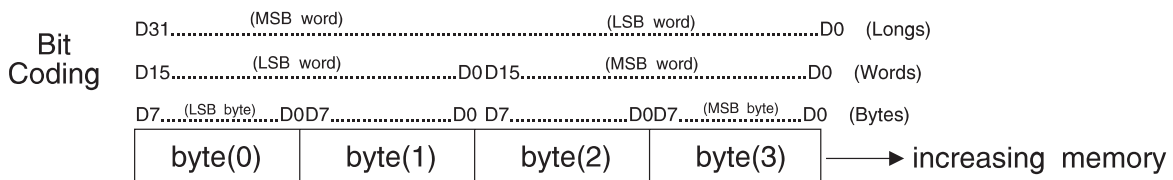
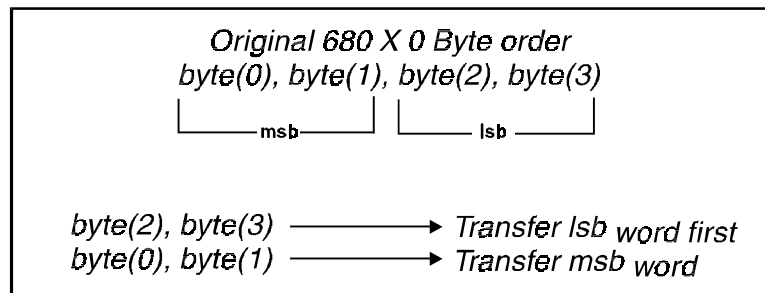

Figure B.1 680x0 Bit and Byte Numbering Conventions
Figure B.6 Transferring a Long Word
Data in 680x0 memory is typically described as shown in Figure B.1, and can be bytes, words, or longs. Bytes are numbered left to right (in the direction of increasing memory) and are identified as byte(0), byte(1), byte(2), and byte(3) and have the corresponding 680x0 hex addresses xxxxx0, xxxxx1, xxxxx2, and xxxxx3 (or xxxxxxxx0, etc. for 32 bit addressing mode).
In Figure B.1, byte(0) is the lsb byte in the byte sequence byte(0), byte(1), byte(2), and byte(3). For words, byte (0), byte(1) is the lsb word, and byte(2), byte(3) is the msb word (the next word). For a long, all four bytes are used to represent the long, and the byte pair byte(0), byte(1) is the msb word of the long, and byte pair byte(2), byte(3) is the lsb word of the long.
As can be seen by examining Figures B.1, B.2, B.3, and B.4, data transferred from 680x0 memory directly to TMS34010 memory without modification only meets our objective if the data being transferred are words.
If the data being transferred across the VMEbus are words, the data may be transferred without modification, as can be seen by examining Figures B.1, B.2, B.3, and B.4.
If the data being transferred across the VMEbus are longs, it is evident from Figures B.1, B.2, B.3, and B.4 that the msb and lsb words of the long are interchanged if transferred to TMS34010 memory directly from 680x0 memory without additional processing. The solution is to transfer the lsb word first [byte(2), byte(3)], and then transfer the msb word [byte(0), byte(1)] as shown in Figure B.6.